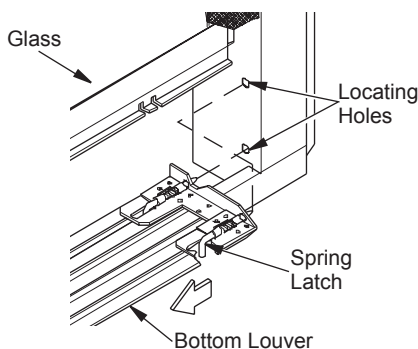

Figure 25 - Removing Louvers
1. To remove louvers, pull both spring latches (located in each end of louver) toward center of appliance at the same time until disengaged from locating holes. Repeat for bottom end spring latches (see Figure 25).